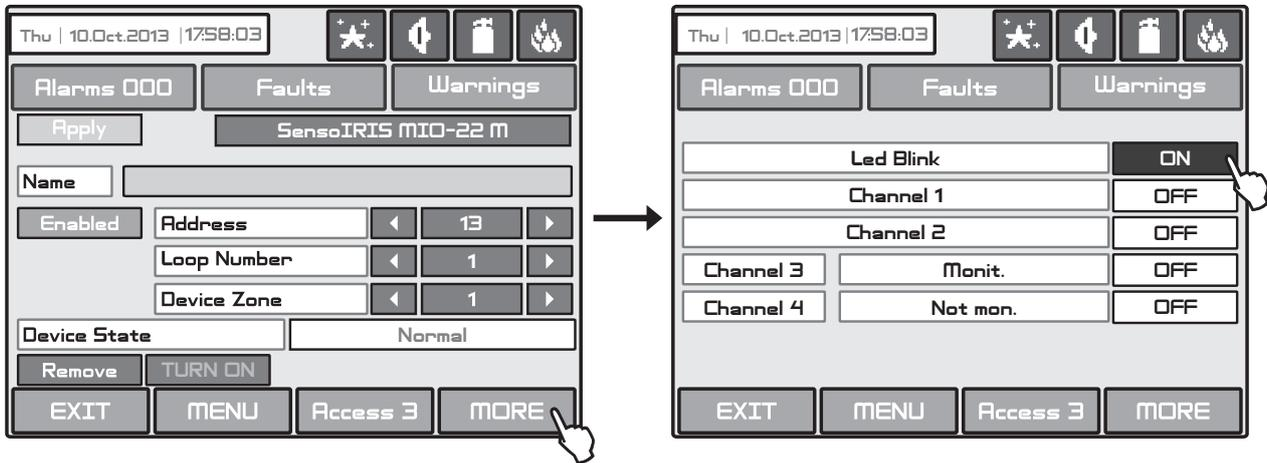

Fig. Screen 10(n) - SensoIRIS MIO-22M module.
On Fig. Screen 10(n) is shown the SensoIRIS MIO-22M (module with 2 inputs and 2 monitored outputs) settings screen. The panel recognizes the Input 1 as Channel 1, Input 2 as Channel 2, Output 1 as Channel 3 and Output 2 as Channel 4. Every of the outputs can be set to operate as monitored or non-monitored type, as the setting is via jumpers on the module’s PCB. The active state of the monitored outputs can be programmed for operation in Normal or Inverted mode with configuration in menu OUTPUTS (SYSTEM - PROGRAMMING - OUTPUTS) - see the description of the menu in item 3.6. When an output is set to operate as Monitored, it must be powered on from an external power supply unit (18-30VDC).